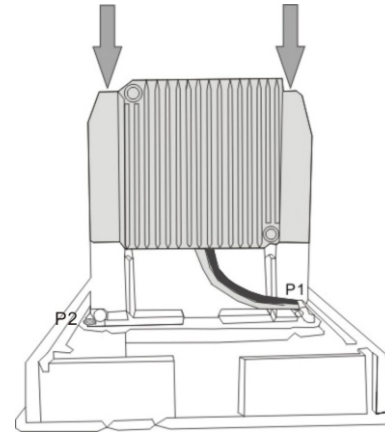

Figure 1
Step 1: Open the outer housing of quad beam sensor, on the bottom of sensor, as shown in Figure 1, screw off the screw in the position P2, then keep the heater close to the semicircle base and align slide track, then press lightly the arrowed positions and push the heater to the bottom. Neaten the power cables, push them into the cable slot in position P1 and tighten, to avoid wiring crossing.